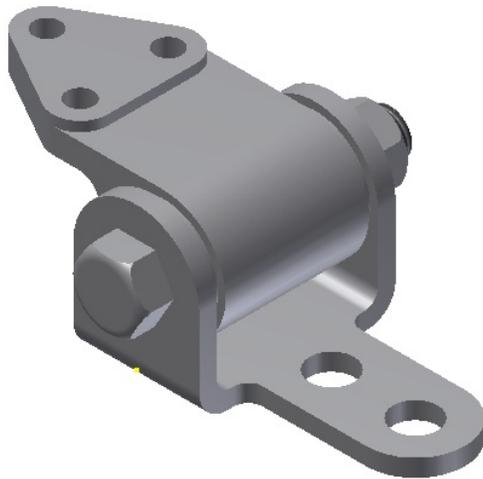

Figure 9-114 Isometric view of the final assembly
7. Choose the **Home** icon from the ViewCube to display the final assembly in the isometric view, as shown in Figure 9-114.